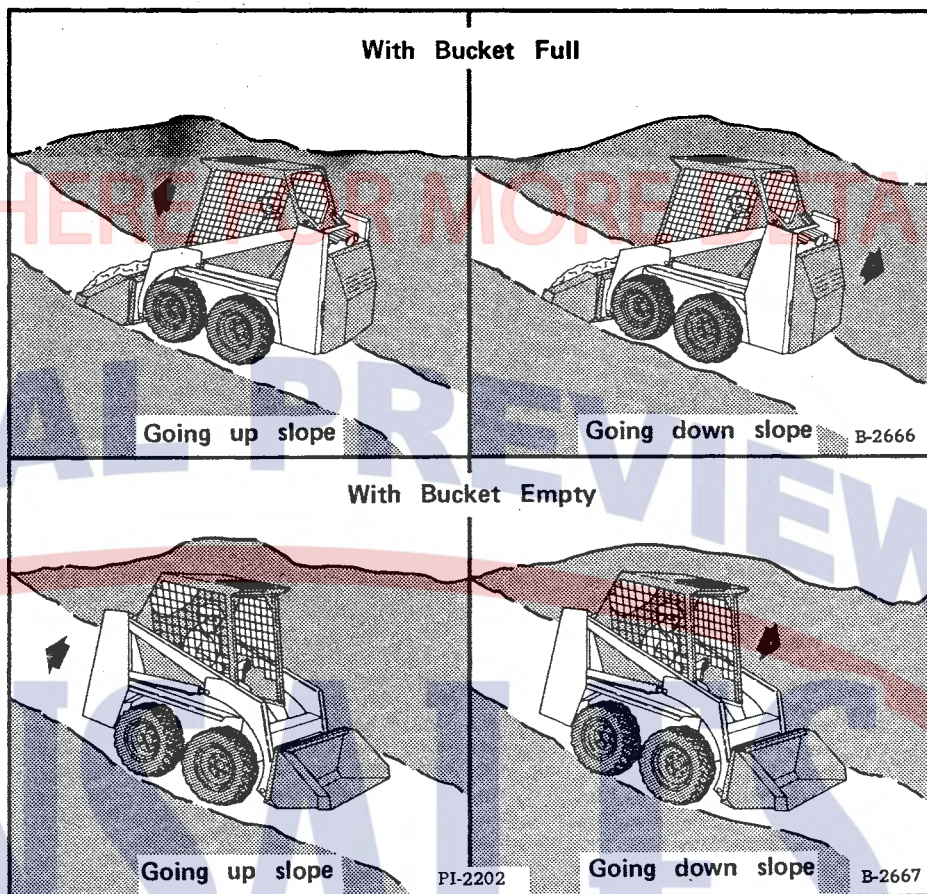

Fig. 19 Driving Up and Down Slopes
6. When going up and down slopes, keep heavy end of loader uphill. Go directly up and down, not across slopes (Fig. 19).